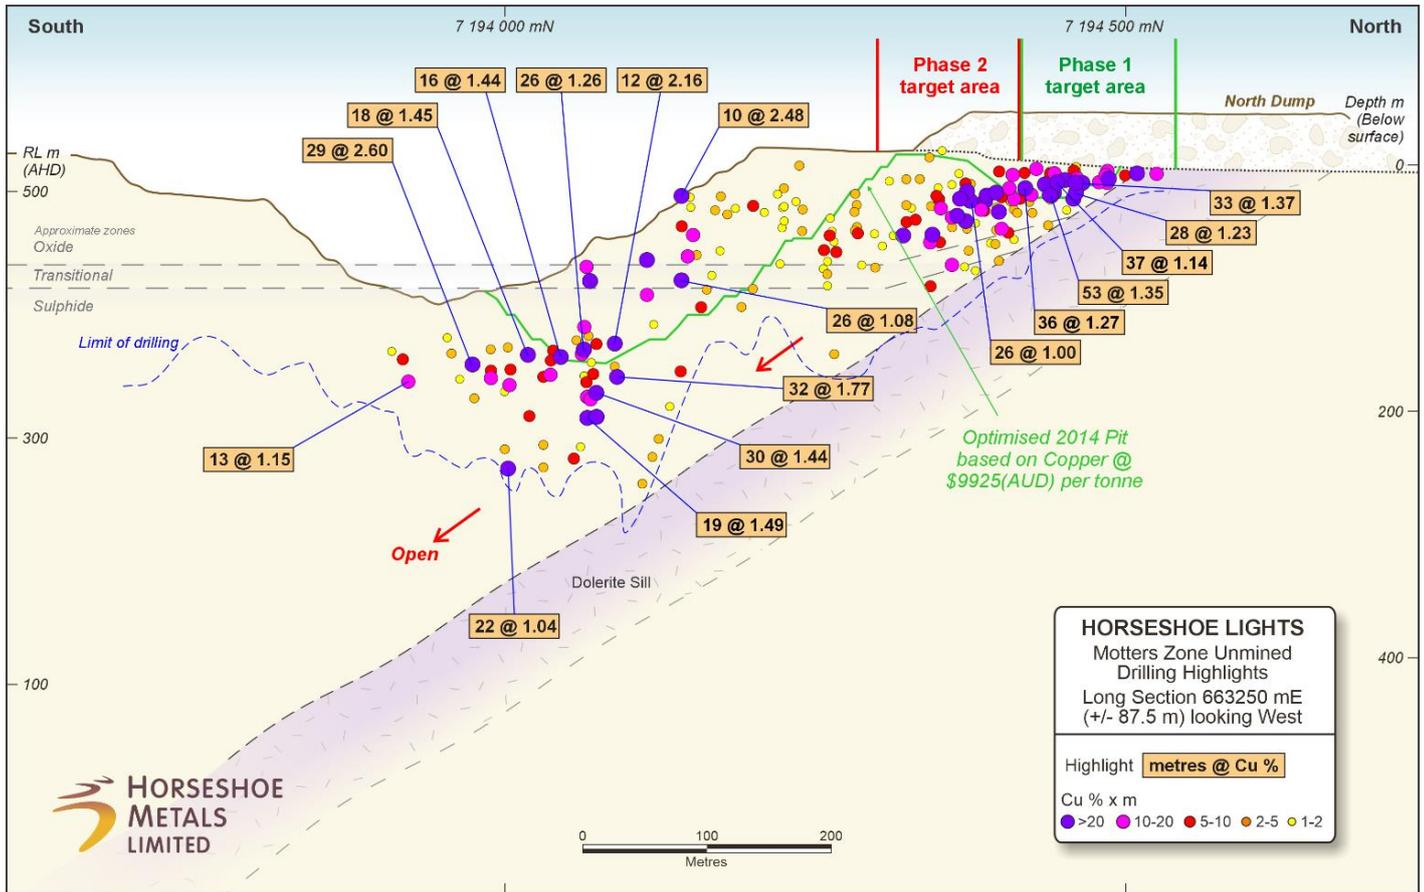
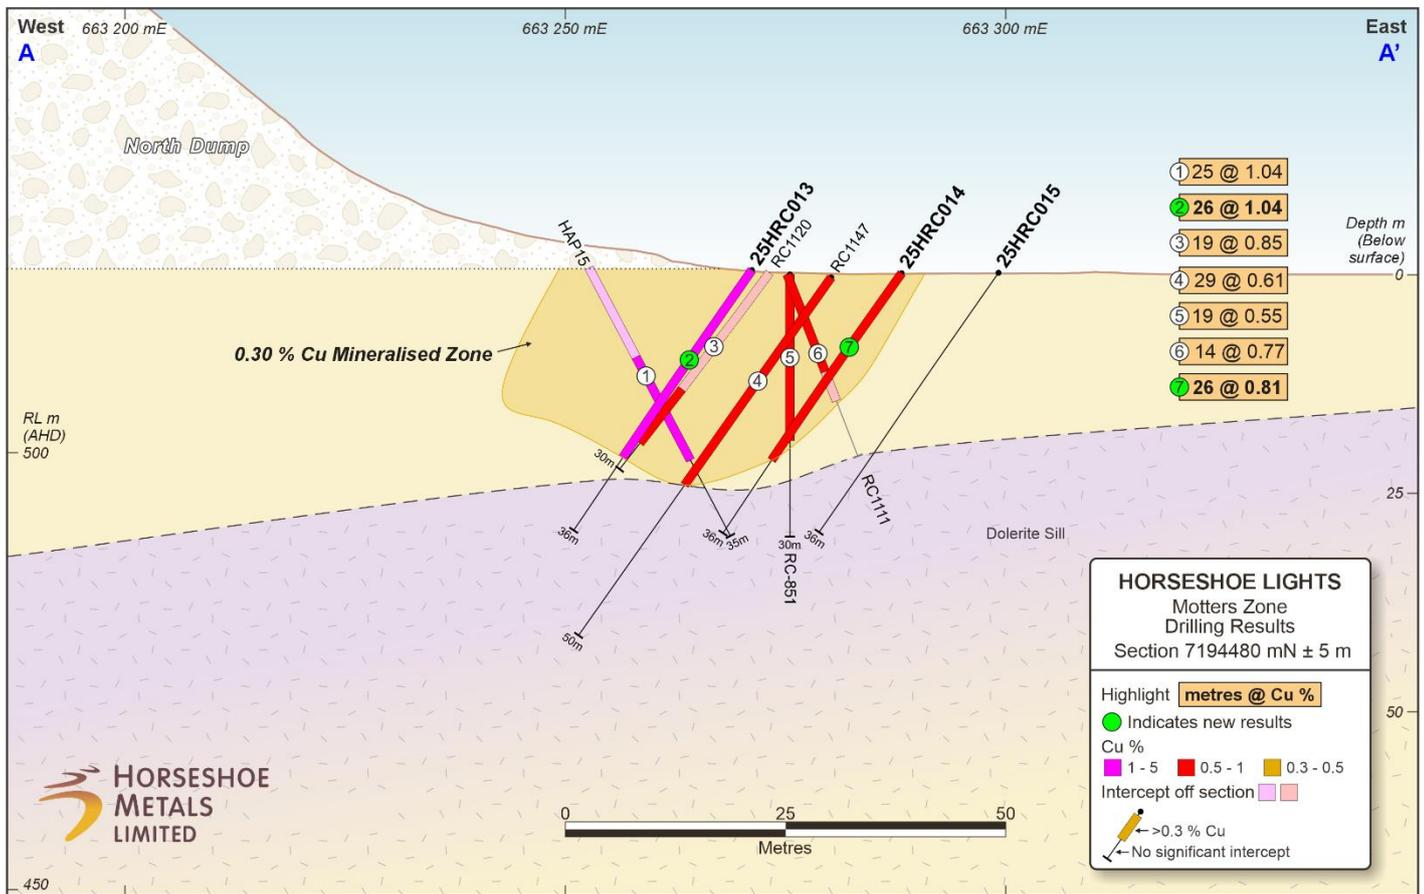

Figure 2: Motters Long Section looking west showing Phase 1 and Phase 2 areas of near surface oxide
Figure 3: Motters Zone Cross Section A-A' showing close spaced RC drill results in oxide zone
- Phase 1 and 2 RC drilling will focus on the immediate southern extension to the Northeast corner of the HSL open pit where several significant drill intercepts have been recorded (see Figure 2)
Oxide to transitional mineralisation at Motters Zone is interpreted to extend from surface to between 40 and 60 metres below surface (Figures 2 to 4). Motters Zone averages about 20 metres in width and dips steeply to the west at about 80 degrees (Figures 3 and 4).